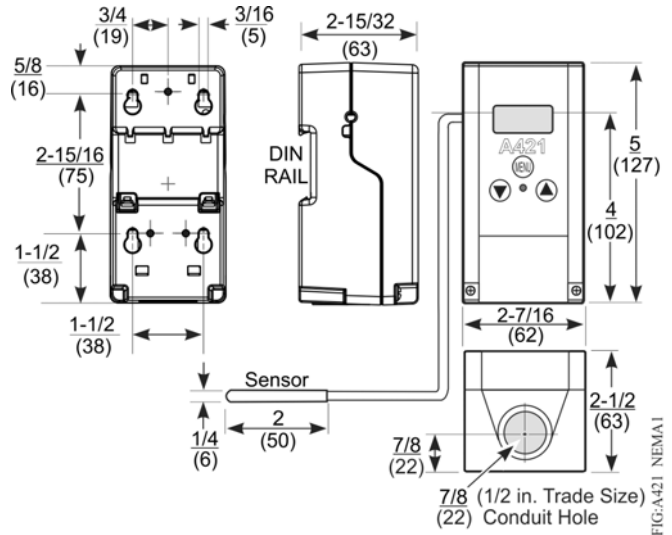
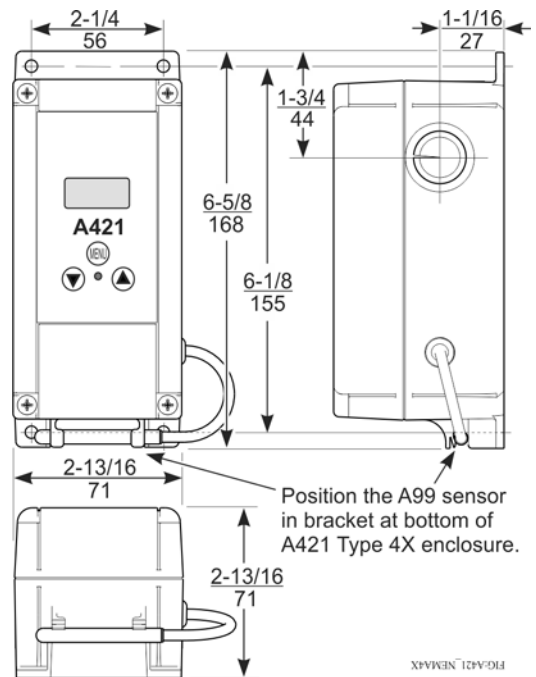

Figure 1: A421 Control with Type 1 (NEMA), IP20 Enclosure Dimensions, in. (mm)
Figure 2: A421 Control with Type 4X (NEMA), IP66 Enclosure Dimensions, in. (mm)
The A421 controls are available either in Type 1 (NEMA), IP20 (CE), high-impact plastic enclosures suitable for surface or DIN rail mounting (Figure 1) or in Type 4X (NEMA), IP66 (CE) watertight, corrosion resistant surface mount enclosures (Figure 2).